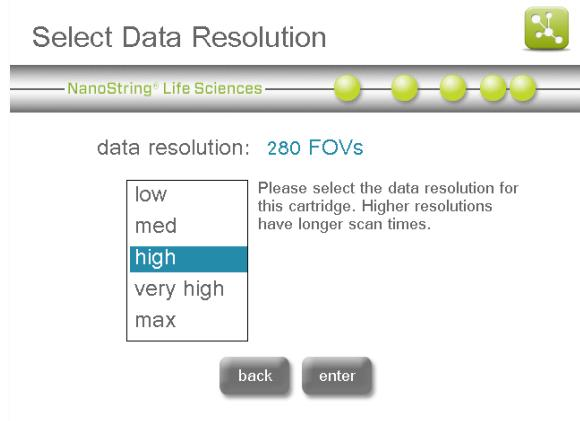

Figure 73: The ‘Select Data Resolution’ screen
6. The ‘Select Data Resolution’ screen will appear (**Figure 73**).